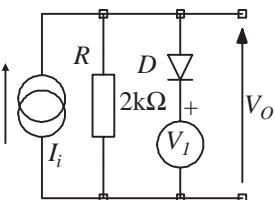

Figure 4
- Q4** In figure 4, $V_j = -2V$. Sketch V_O as a function of I_i over the range $I_i = -3mA$ to $+3mA$.